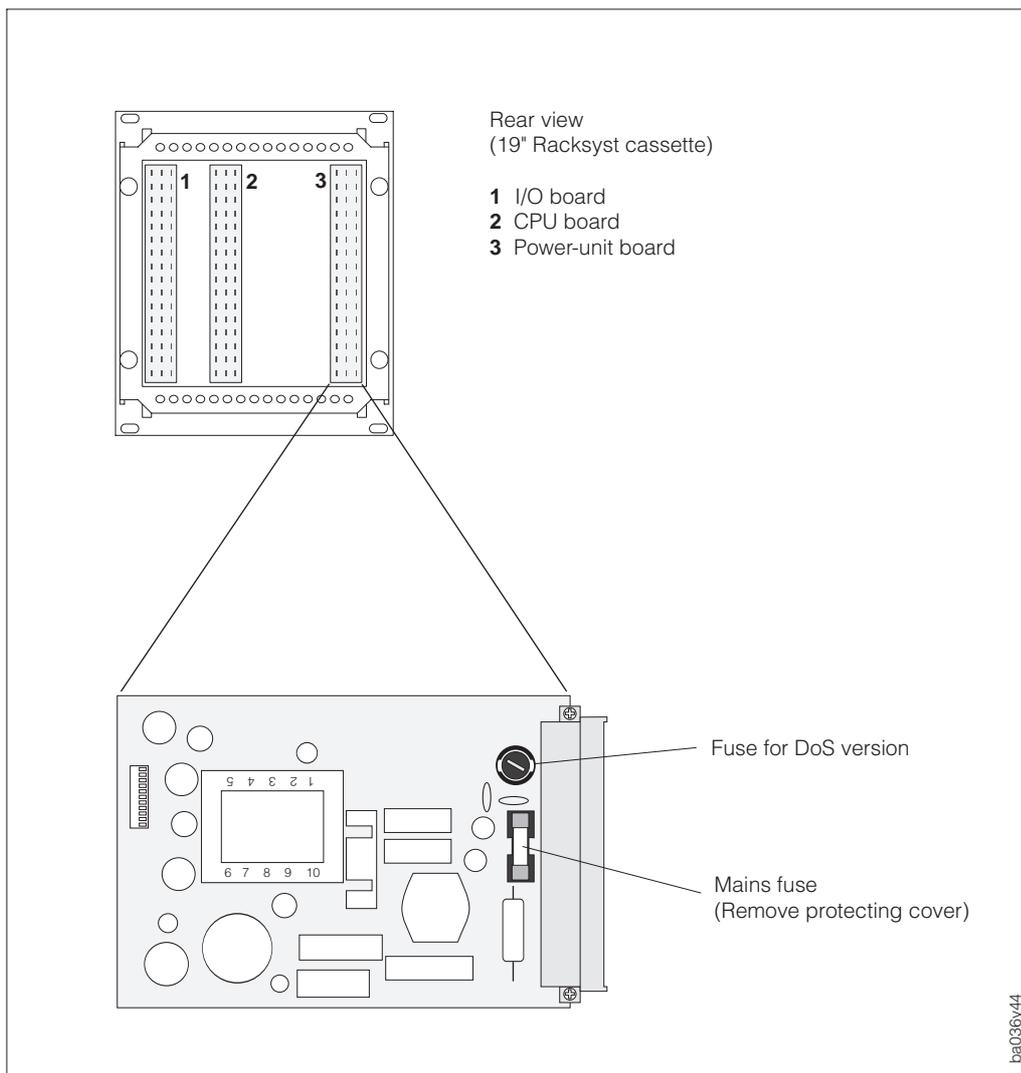

Fig. 21
3. The fuses to be removed are on the power-unit board (see Fig. 21). Remove the power-unit board according to the description on page 104. Exclusively use the following fuse types: